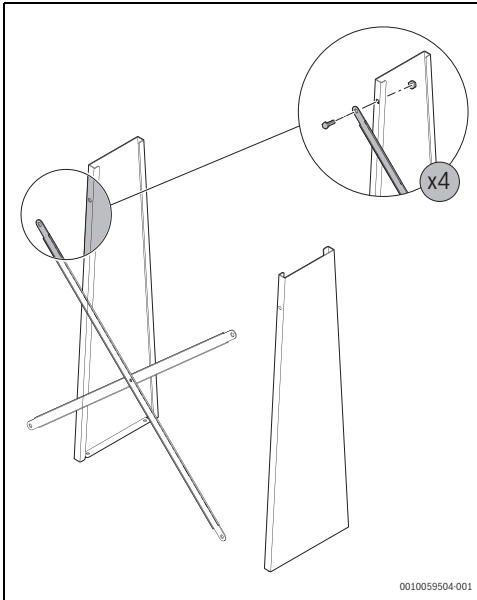

Fig. 10
- ▶ Insert the criss-cross support (see fig. 10).